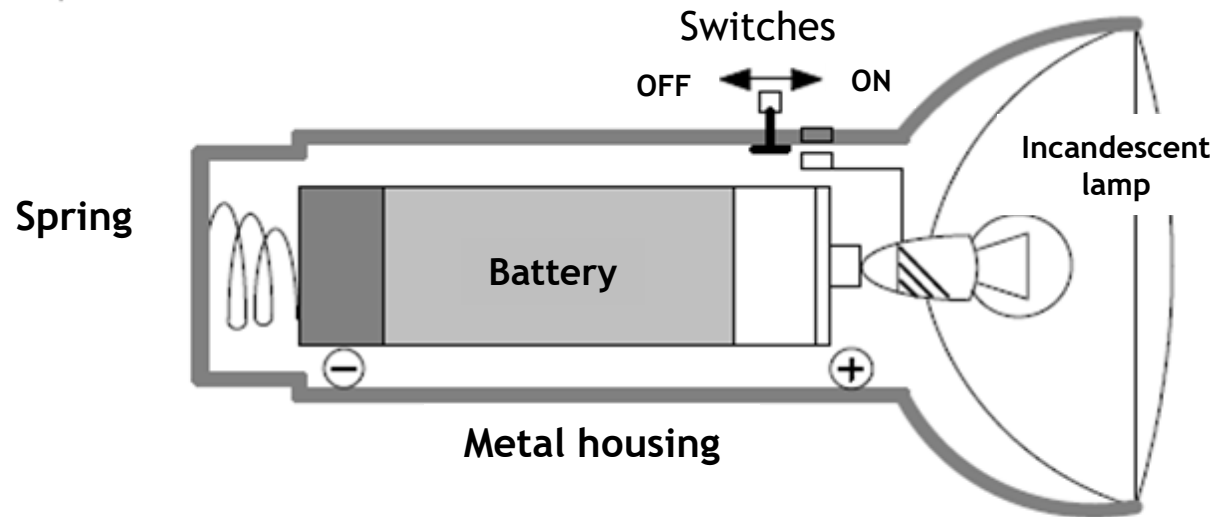

Fig. 1.1: "Inner workings" of a torch
- ▶ A simple electrical circuit basically consists of a voltage source, a load and an electrically conductive connection between the two. A simple electrical circuit is explained using the "inner workings" of a torch as an example (Fig. 1.1):
The resistance of the incandescent lamp in the torch example (Fig. 1.1) has a value of :